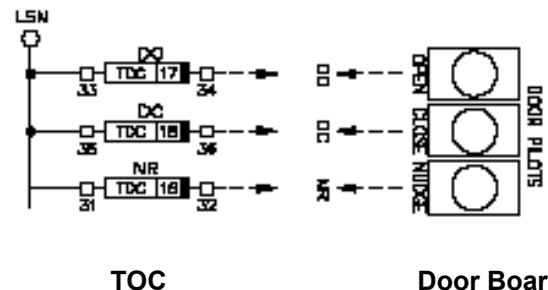

Figure 1-39
From the Top of CAR controller (TOC) there will be 3 inputs required to the door boards. They are DO, DC and Nudging (NR). [See Figure 1-39.]